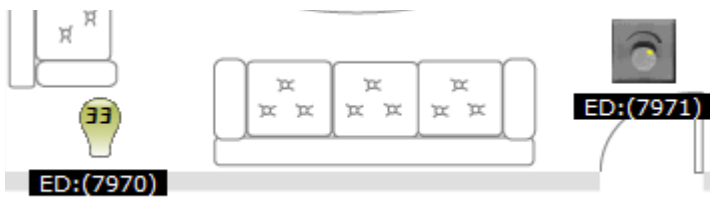

Figure 16. The Dimmer Switch Sending “Step Up 33%” to the Dimmable Light
2. Press SW2 on the Dimmer Switch board. This sends the “Step Up 33%” Command to the Dimmable Light. Notice how LED2 on the Dimmable Light boards turns on and LED3 and LED4 are off. The ZeD GUI shows the Dimmable Light bulb icon changing from the off state and the level (as a percentage) on the icon rises from 00 to 33 as shown in Figure 16.